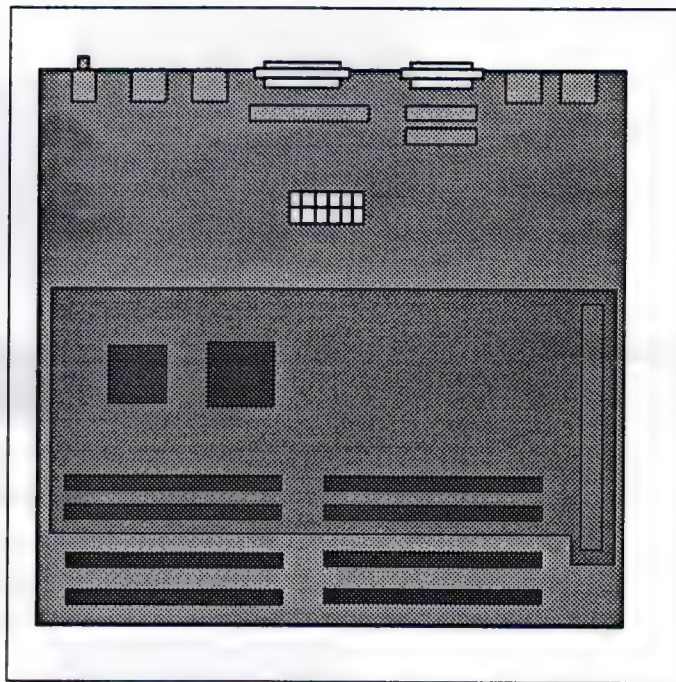

Figure 22: Positioning the NewLife 25SE on the Mac motherboard
3. Set the memory size jumper to correspond to the amount of memory you are installing as shown in figure 22.
You install the NewLife 25SE board on top of the Macintosh motherboard — as shown in Figure 22. The 96-pin connector on the bottom of the NewLife board attaches to the Mac SE expansion connector.
Position the NewLife 25SE board above the Macintosh motherboard as shown in Figure 22. *Before you apply any pressure, look between the two boards and make sure all of the pins are aligned with the socket.*